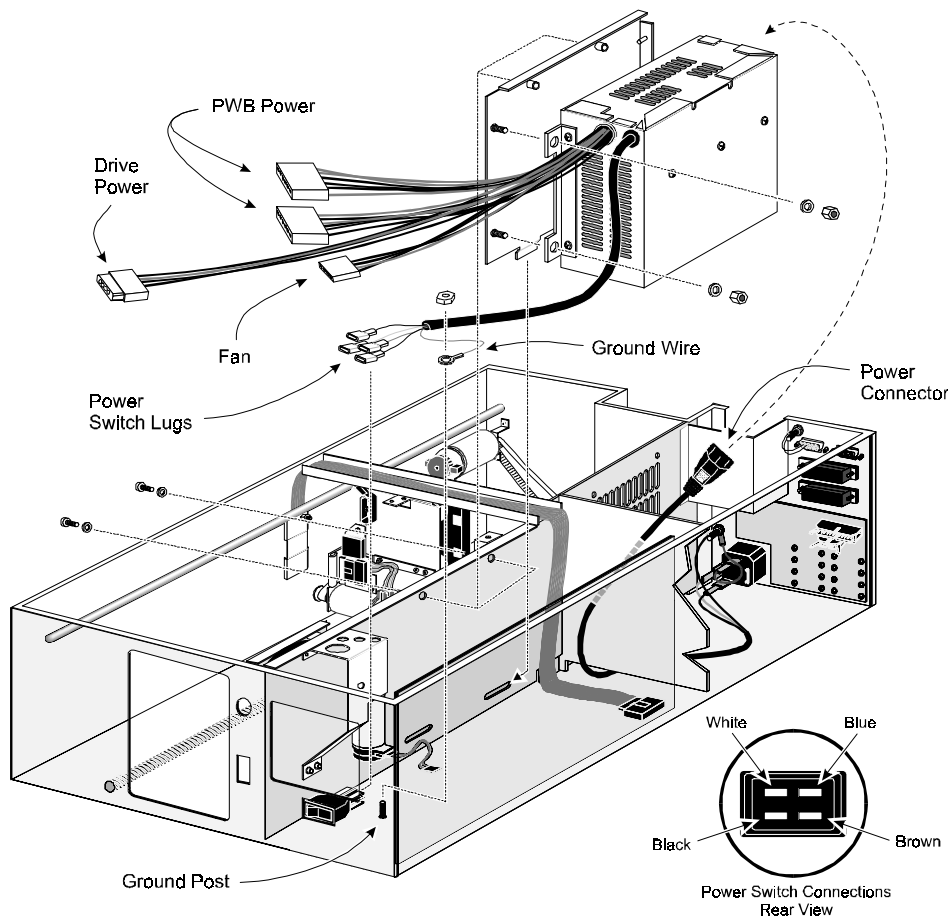

Figure 6-19 Power Supply Assembly, Current Production
Refer to Figure 6-19.
3. Connect the four spade lug connectors. Refer to the inset in Figure 6-19 for orientation of the colors.